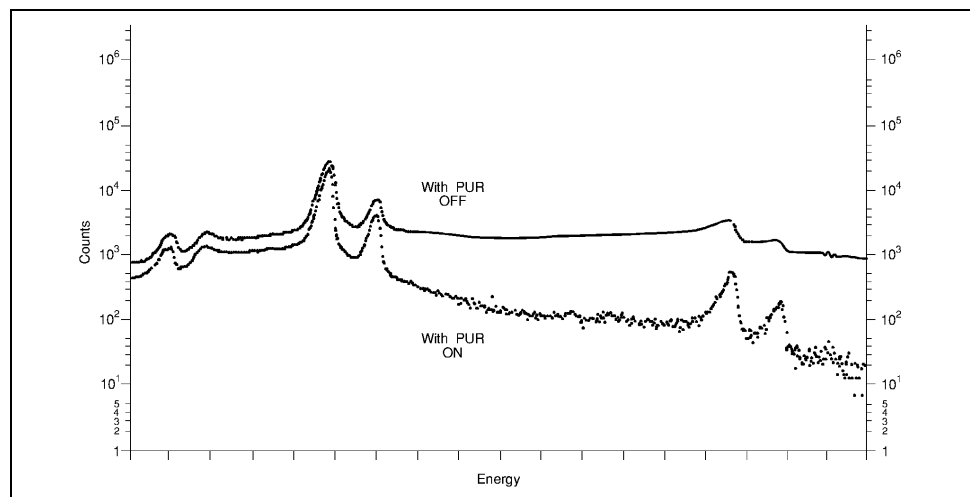

Figure 5.2 ^{60}Co at 50 kcps, 4 μs Shaping
- f. Now accumulate a spectrum with the Amplifier's PUR function OFF. Compare the two spectra. The two spectra should look like Figure 5.2.